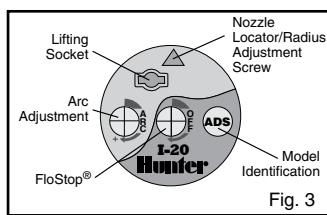

Fig. 3
- Insert the plastic key end of the Hunter wrench into the adjustment socket (Fig. 3 & 4).
Insert the plastic key end of the Hunter wrench into the FloStop® adjustment socket (Fig. 3 & 10). Turn wrench clockwise to decrease or shut off the flow. Turn the wrench counterclockwise to increase the flow.